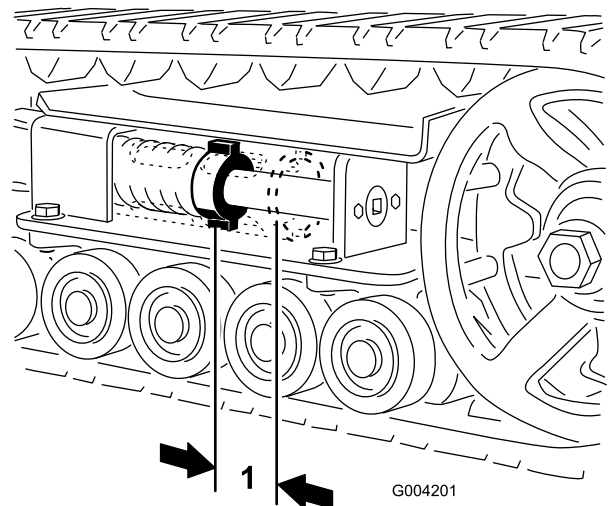
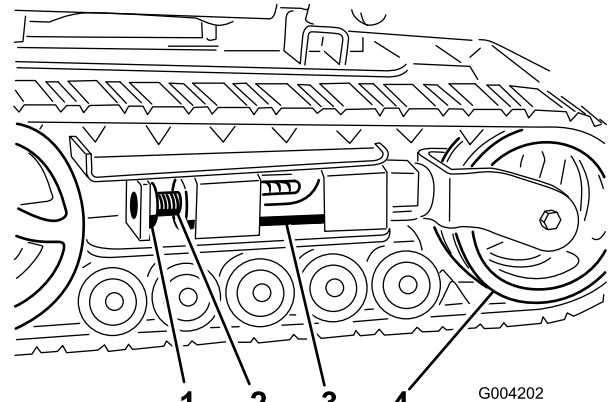
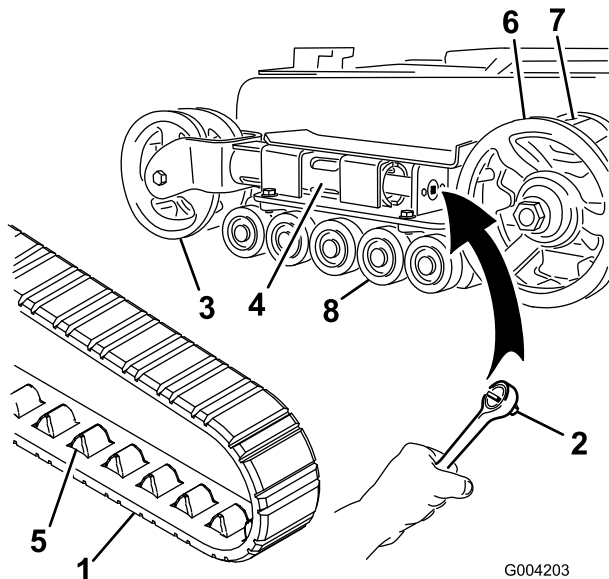

Figure 40
Figure 41
Figure 42
There should be 2-3/4 inches (7 cm) between the tension nut and the back of the tension tube (Figure 40). If not, adjust the track tension using the following procedure:
3. Remove the locking bolt and nut (Figure 41).
4. Using a 1/2 inch drive socket wrench (Figure 42), turn the tensioning screw counter-clockwise until the distance between the tension nut and the back of the tension tube (Figure 40) is 2-3/4 inches (7 cm).
5. Align the closest notch in the tension screw to the locking bolt hole and secure the screw with the locking bolt and nut (Figure 41).
4. Using a 1/2 inch drive socket wrench, release the drive tension by turning the tensioning screw clockwise (Figure 41 and Figure 42).
5. Push the tension wheel toward the rear of the unit to move the tension tube against the frame (Figure 42). (If it does not touch the frame, continue turning the tensioning screw until it does.)
7. When the track is off of the tension wheel, remove it from the drive sprocket and road wheels (Figure 42).
8. Beginning at the drive sprocket, coil the new track around the sprocket, ensuring that the lugs on the track fit between the cogs on the sprocket (Figure 42).
9. Push the track under and between the road wheels (Figure 42).
11. Turn the tensioning screw counter-clockwise until the distance between the tension nut and the back of the tension tube (Figure 40) is 2-3/4 inches (7 cm).
4. Using a 1/2 inch drive socket wrench, release the drive tension by turning the tensioning screw clockwise (Figure 41 and Figure 43).
17. Turn the tensioning screw counter-clockwise until the distance between the tension nut and the back of the tension tube (Figure 40) is 2-3/4 inches (7 cm).